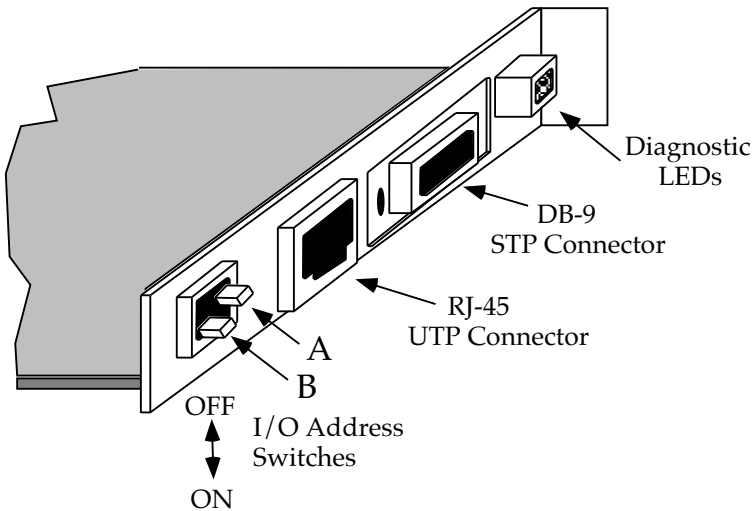

Figure 2-2. T2015 Bracket and I/O Address Switches
Before the T2015 adapter can be used, the I/O base address must be set using a pair of two-position dip switches accessible through the card's bracket. The switches are located just below the ports on the bracket (see Figure 2-2).
- Select the I/O base address for the adapter using the following settings. Refer to Figure 2-2 on page 2-4, and Table 2-1 below.